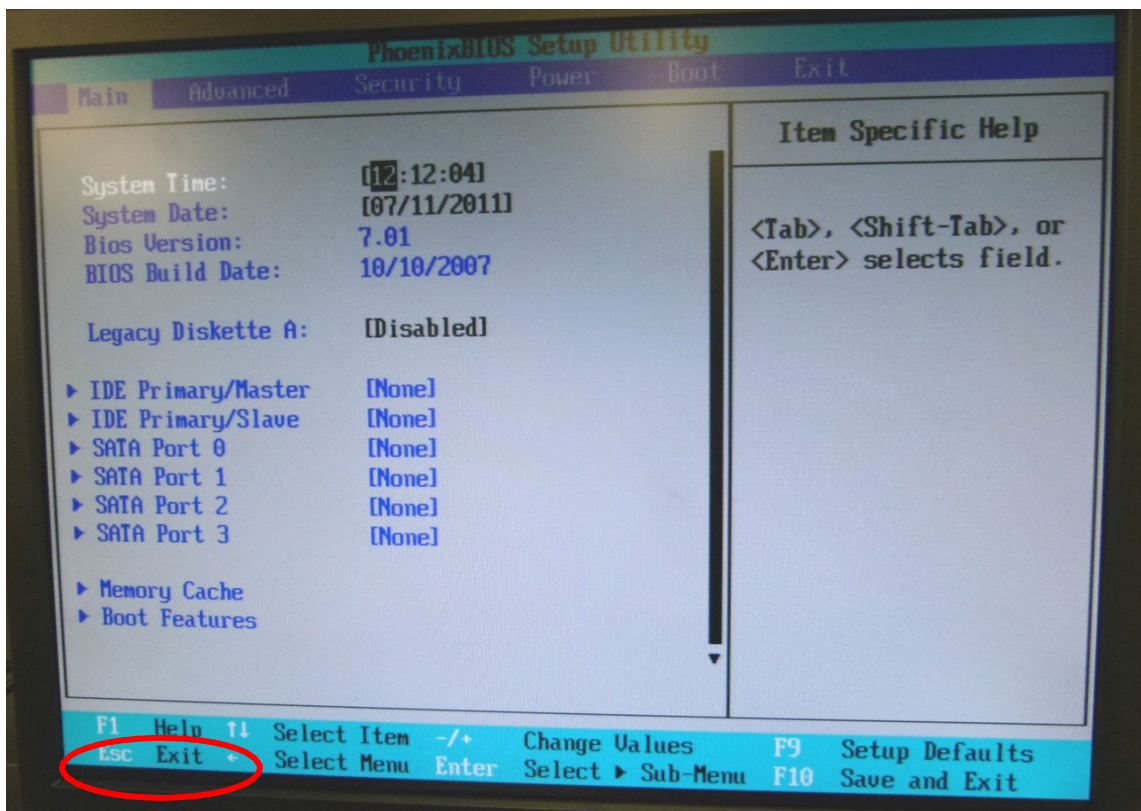

Figure 1: Setup utility Main tab
- c. When **Setup Utility** screen, shown in **Figure 1** is displayed, select **Main** tab and press **ESC** to go to **Exit** menu.